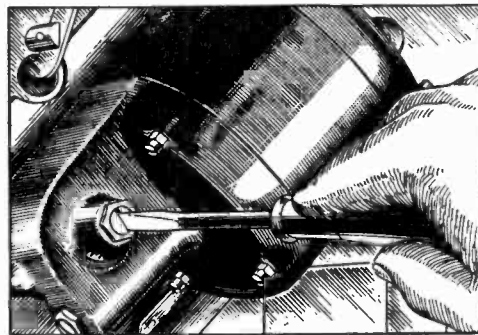

Figure 8—Adjusting spindle height
- (a) Improper turntable spindle height. The height of the turntable spindle nose should be approximately  $\frac{1}{32}$ " above the inside bottom surface of the record magazine. Adjustment of this height made by means of the screw at the bottom of the motor. (See Figure 8).
- (b) Turntable spindle shaft too low. This condition will cause binding between the pawl carrier and the clutch wheel. Raise the spindle as shown in Figure 8.